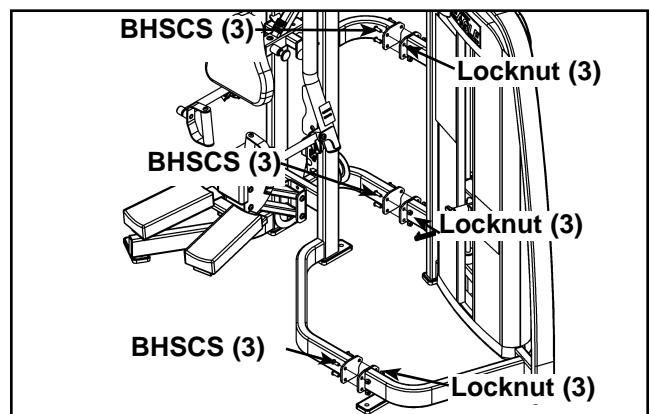

Figure 1
- B. With an assistant, carefully remove the nine Button Head Socket Cap Screws (BHSCS) securing the two halves of the frame. See Figure 1.
D. With an assistant, carefully attach each half together using the nine BHSCS removed in step 4B. See Figure 1.